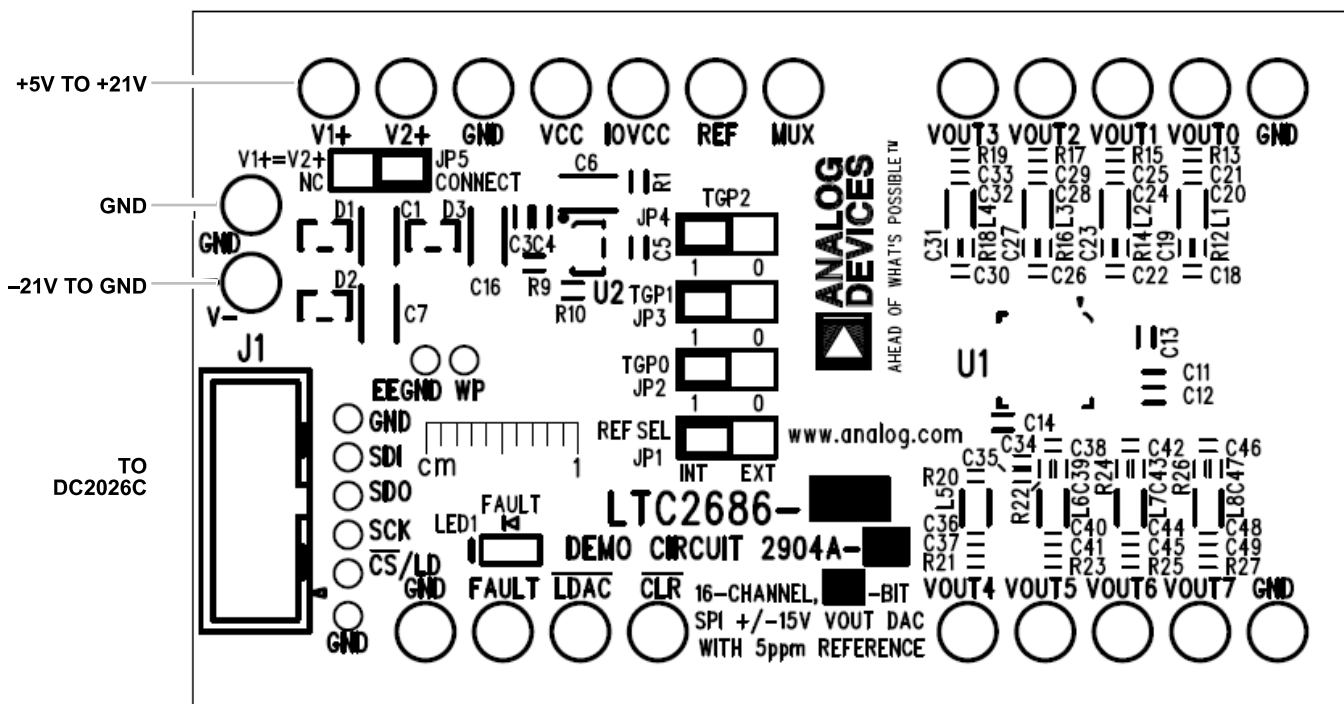

Figure 2. DC2904A-B Hardware Connections
The DC2904A-B requires the power connections and connection to the DC2026C controller board shown in Figure 2. The ribbon cable provided in the evaluation kit connects the DC2904A-B and the DC2026C via the J1 connector. Turrets are provided to connect the DC2904A-B to the power supplies.
1. Connect the DC2026C to the DC2904A-B via the J1 connectors with the ribbon cable provided (see Figure 2).